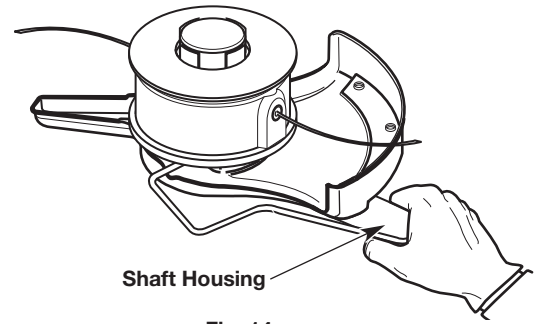

Fig. 14
4. Hold the locking rod in place by grasping the other end against the shaft housing (Fig. 14).
3. Hold the locking rod in place by grasping the other end against the shaft housing (Fig. 14).